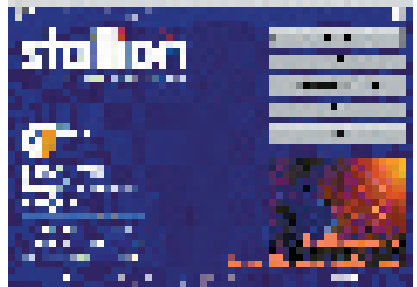

Figure 3 - Auto Start Screen
- The CD-ROM will auto-start (Figure 3). If auto-start is disabled, from the Start Menu of your PC select Run then Browse to your CD drive. Select autorun.exe at the prompt and click OK to start.